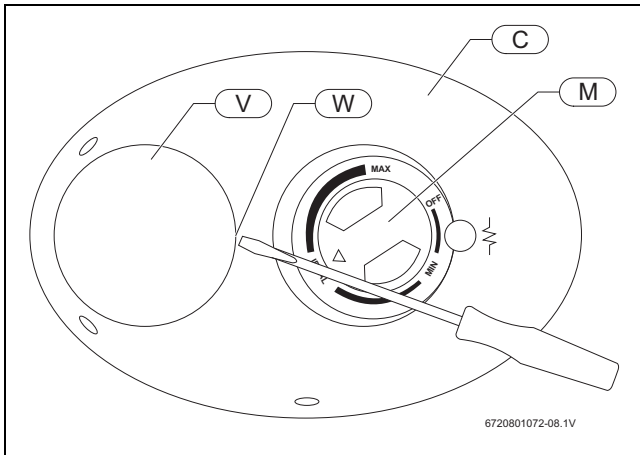

Fig. 9
The temperature of the hot water is adjusted by rotating the knob M (Fig. 9) located on the front cover. Temperature range is 65 - 145 °F.
- ▶ Pry off the round cover plate (Fig. 9, [V]) from its right hand edge (Fig. 9, [W]) with a small flat-head screwdriver.
- ▶ The cover (Fig. 9, [C]) can now be removed by pulling out its left-hand edge. When reassembling, work in the opposite way being careful to insert the tongue of the cover into the slot.